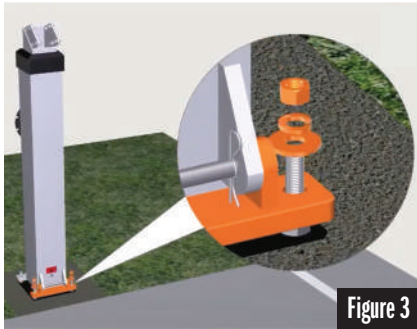

Figure 3
- Slide the Base Pole onto the J-Bolts with the round holes closest to the court & the slotted holes furthest away. Secure front, courtside bolts with (2) Flat Washers, (2) Lock Washers and (2) 5/8" Nuts. See Figure 3.